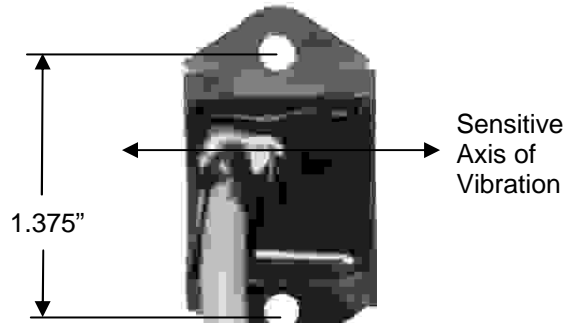
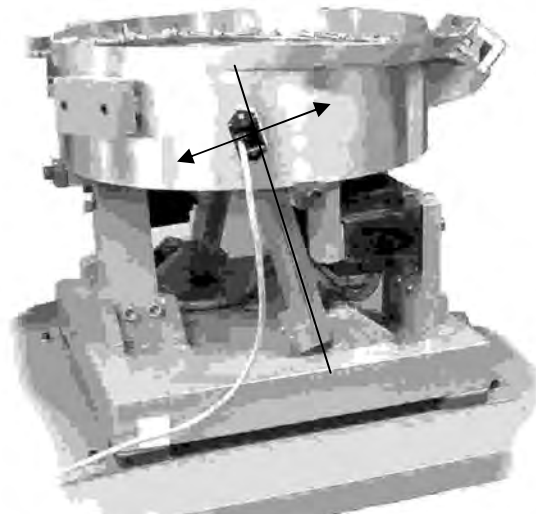

Fig. 1
Fig. 2 The arrow shows the direction of vibration which is at a right angle to the spring pack.
**A. ORIENT THE SENSOR** so that its sensitive axis is in the same direction as the vibration of the feeder. The double-ended arrow in figure 1 shows the sensor's sensitive axis. Align the sensitive axis of the sensor in the same direction as the vibration (see figure 2). The sensor must be oriented correctly for proper operation.
- 6) Remove the vibration sensor from its protective packaging. Remove the liner from the adhesive backing. Avoid touching the tape. Align the sensor as shown in figures 1 and 2. Apply the vibration sensor very firmly onto the feeder surface for at least 10 seconds.
Use a cable tie and an adhesive-backed mount to attach the sensor cable to the side of the drive base. See Figure 2. Clean the mounting area before applying the adhesive-backed mount.